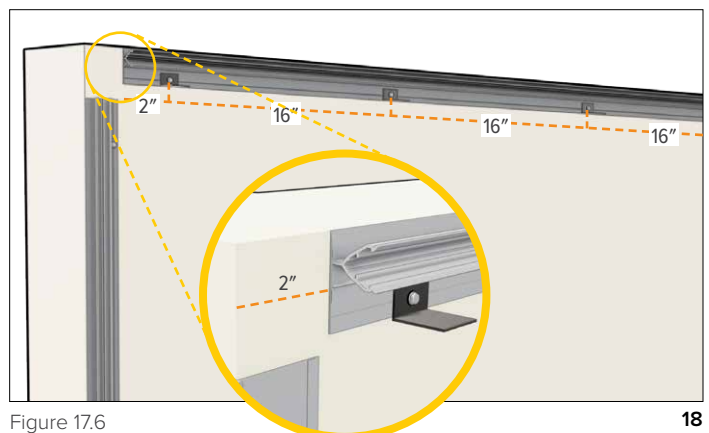

Figure 17.6
11. At the top of the wall run a two piece J back plate horizontally keeping it back 2" at ends and secure it by placing fasteners through the Plank Backers into the starter J fastener line at 16" o.c. and no further than 2" from the ends. The backers will hold the top edge of the last Plank flush to the main surface later in the process. (Figure 17.6)